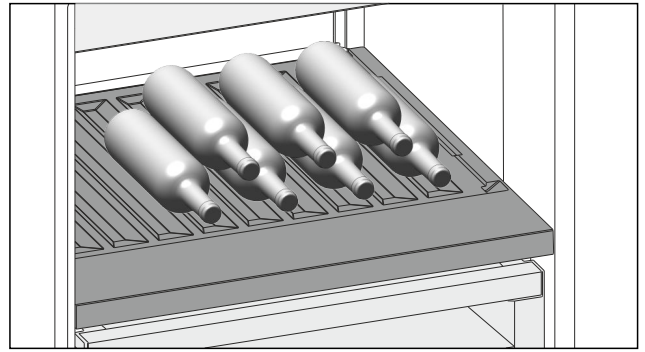

Fig. 124
- Place bottles in the back row with their bases against the back wall. (see Fig. 124)